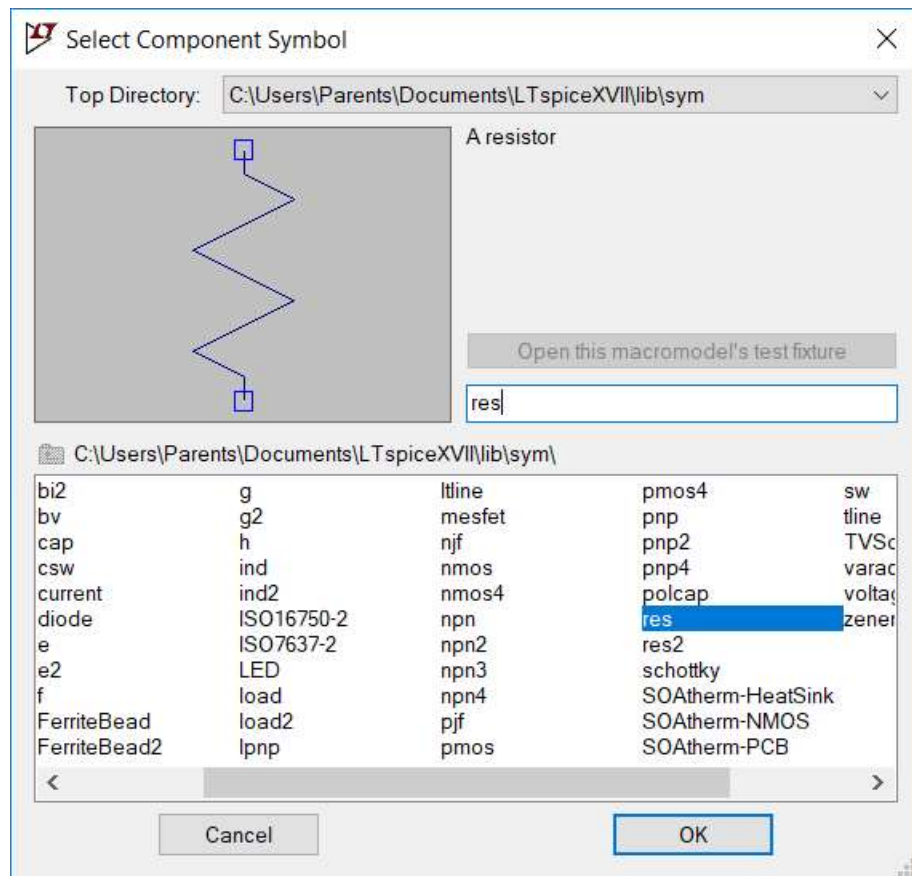

*Figure 2 - Simple Photo-sensor Circuit in LTSpice*
Figure 1 depicts a simple drawing of the photo-sensor circuit. Figure 2, on the other hand, shows the same circuit as captured in LTSpice.
Perform the following steps to create the schematics shown in Figure 2.
- c. Click “OK”, and place one NPN transistor on the schematic. (Follow the general placement given in Figure 2.
Your schematics should now look like the drawing in Figure 2.